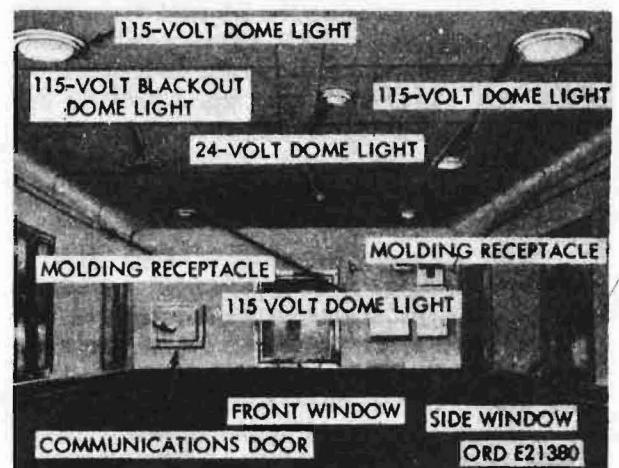
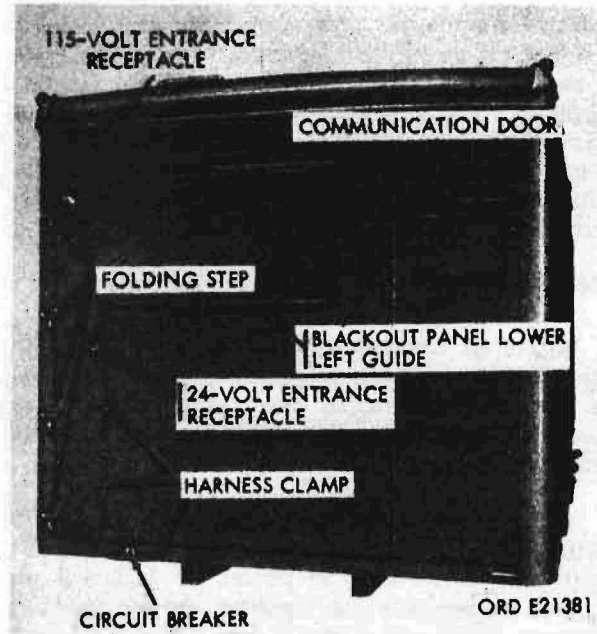

Figure 132. Shop van body dome-light assemblies and wiremold receptacles
Figure 133. Shop van body assembly - front view
a. General. The shop van body is provided with necessary electrical components to permit use of 24-volt dc power or 115-volt ac power to operate the lighting and the exhaust blower in the van body. Power for the 24-volt dome lights (fig. 132) and two blackout light switching circuits is brought from the circuit breaker in the cab to a 24-volt entrance receptacle (fig. 133) behind the folding ladder on the right front end of the van body. Power for the 24-volt exhaust blower is brought from the batteries, through the circuit breaker (fig. 133) on the lower right front end of van body, then to the 24-volt entrance receptacle. The 115-volt entrance receptacle (fig. 133), behind the folding ladder and to right of the smaller 24-volt receptacle, is used for 115-volt input from an external power source. Ac power can be used to operate 115-volt dome lights (fig. 132) and any added 115-volt equipment in the van body, as well as the ac-to-dc
c. Multibreaker Assembly. Four circuit breakers, located in multibreaker assembly box (fig. 63) on the front panel, control and protect four electrical circuits in the shop van body. Circuit breaker No. 1, upper left-hand breaker, controls 115-volt ac power to the molding receptacle (fig. 132) along inside of the body right panel above the windows. Breaker No. 2, upper right-hand breaker, controls the 115-volt power to the left-hand molding receptacle. Breaker No. 3, lower left-
- (1) Supplying 24-volt dc power. The 24-volt dc power for the exhaust blower circuit and for the 24-volt dome lights and blackout light switching circuits enters the shop van body through the 24-volt entrance receptacle (fig. 133). Make sure the 24-volt cable connector is secured properly in the receptacle.
- (2) Supplying 115-volt ac power. Unscrew the dust cap from the 115-volt entrance receptacle (fig. 133). Install the 115-volt cable connector from an outside source into the receptacle.